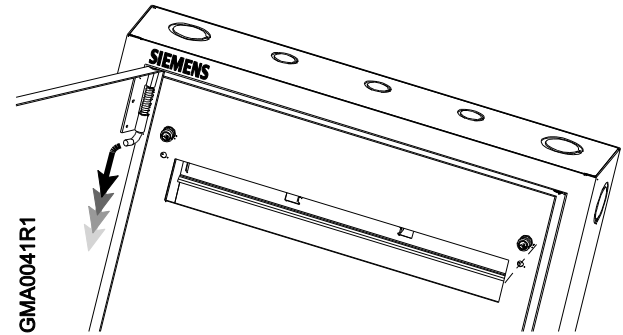

Figure 3: Reversing the Enclosure Door.
The enclosure door can be reversed. See Figure 3.
9. If needed, reverse the door by pulling the hinge pin down and rotating the door out of the socket. See Figure 3.